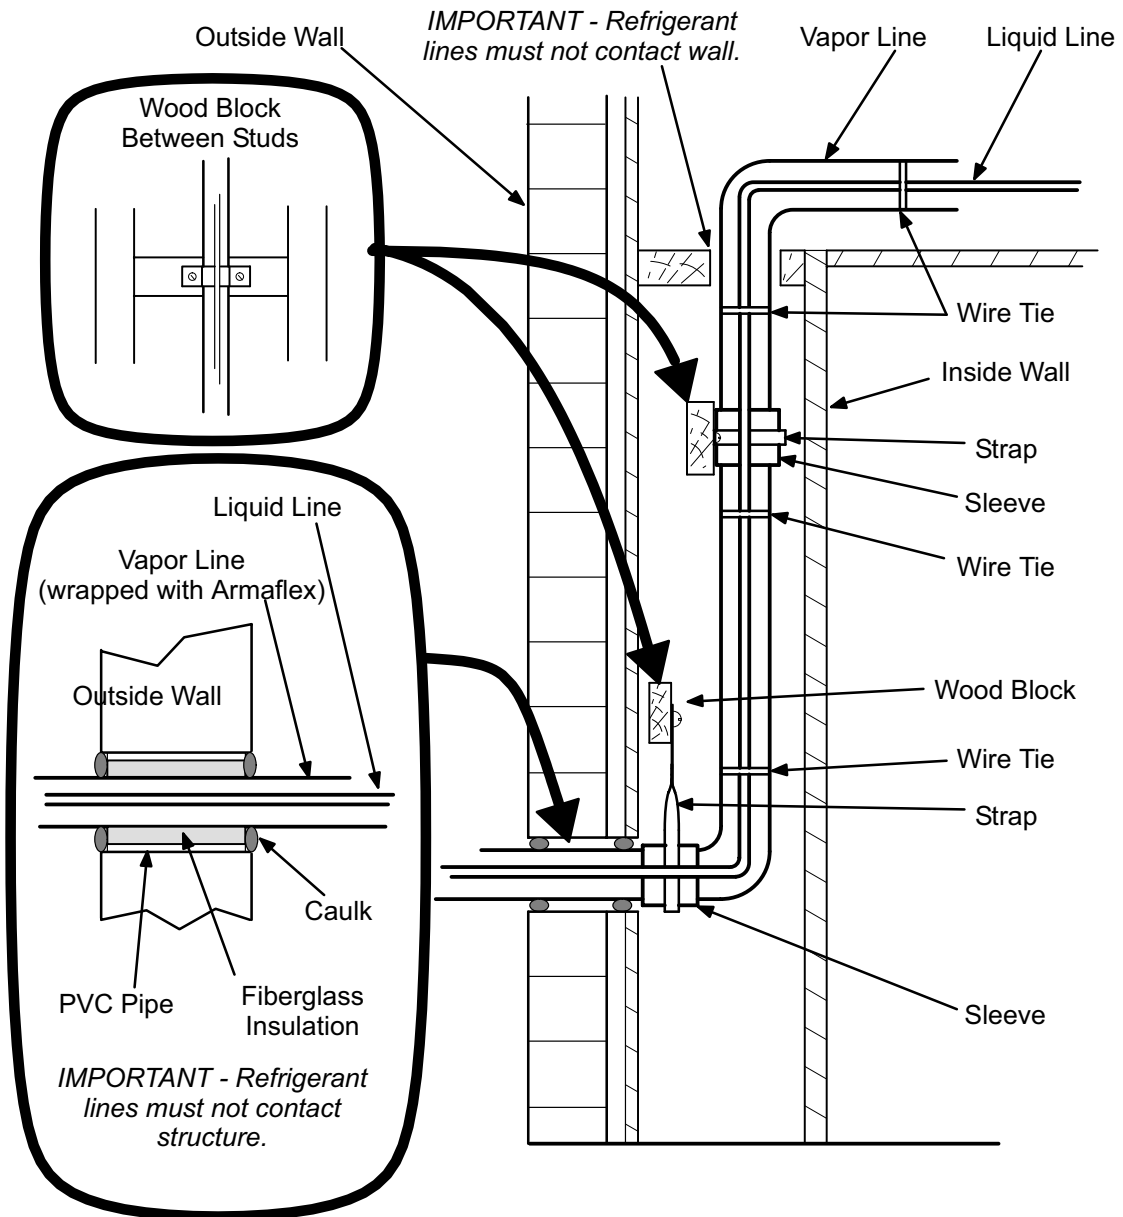
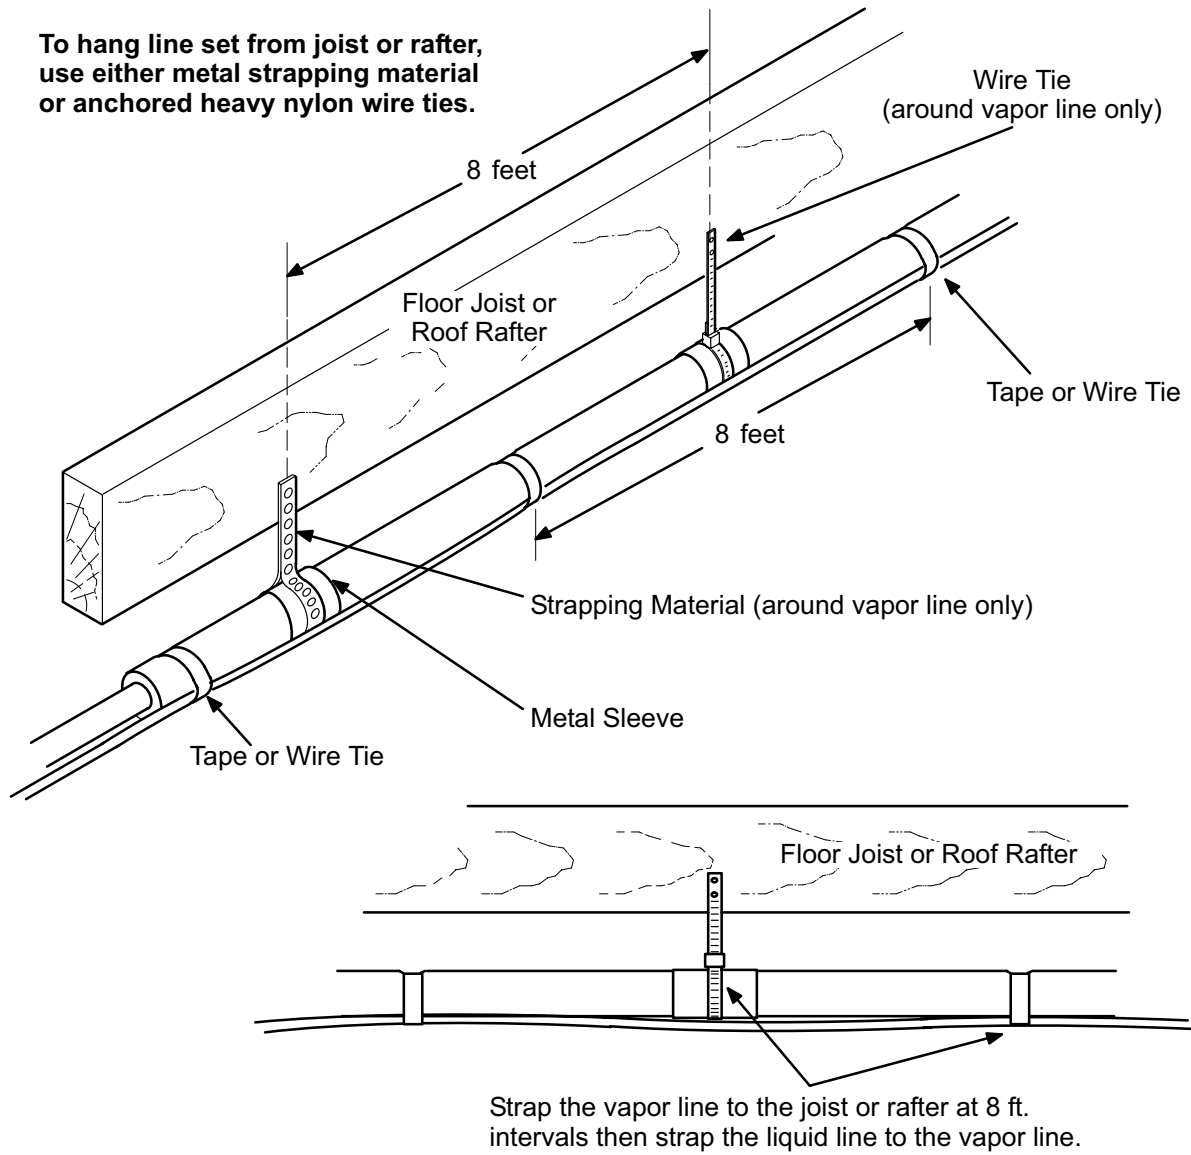
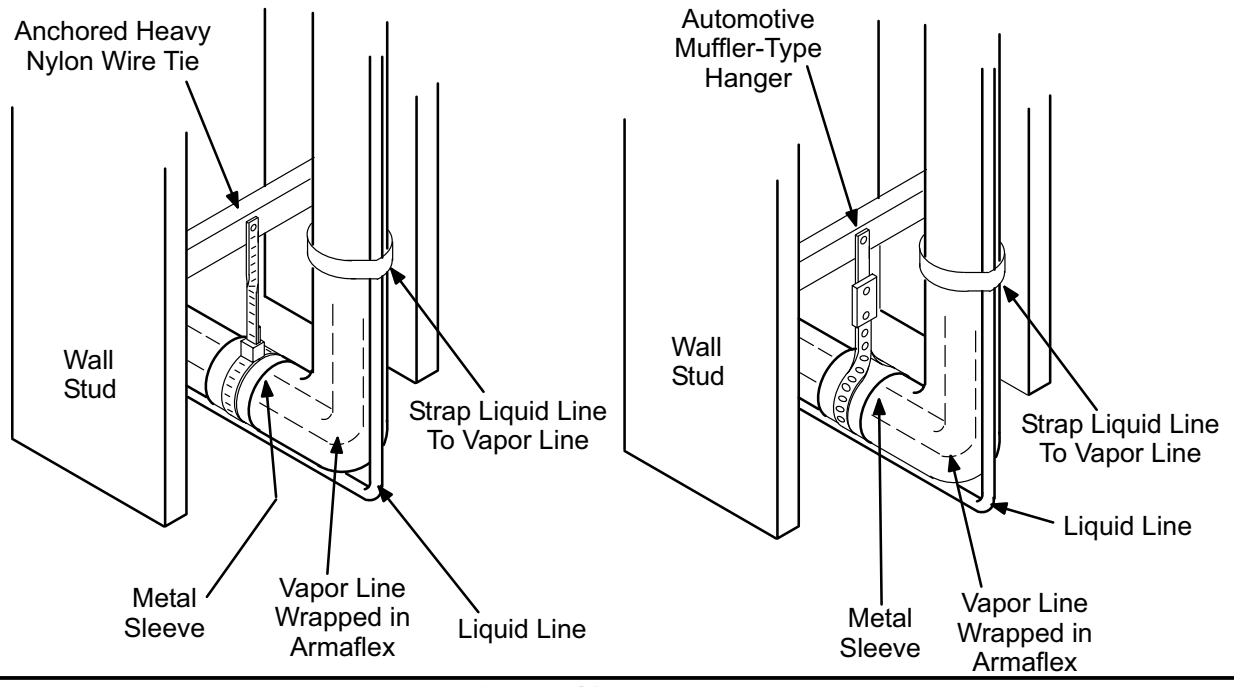
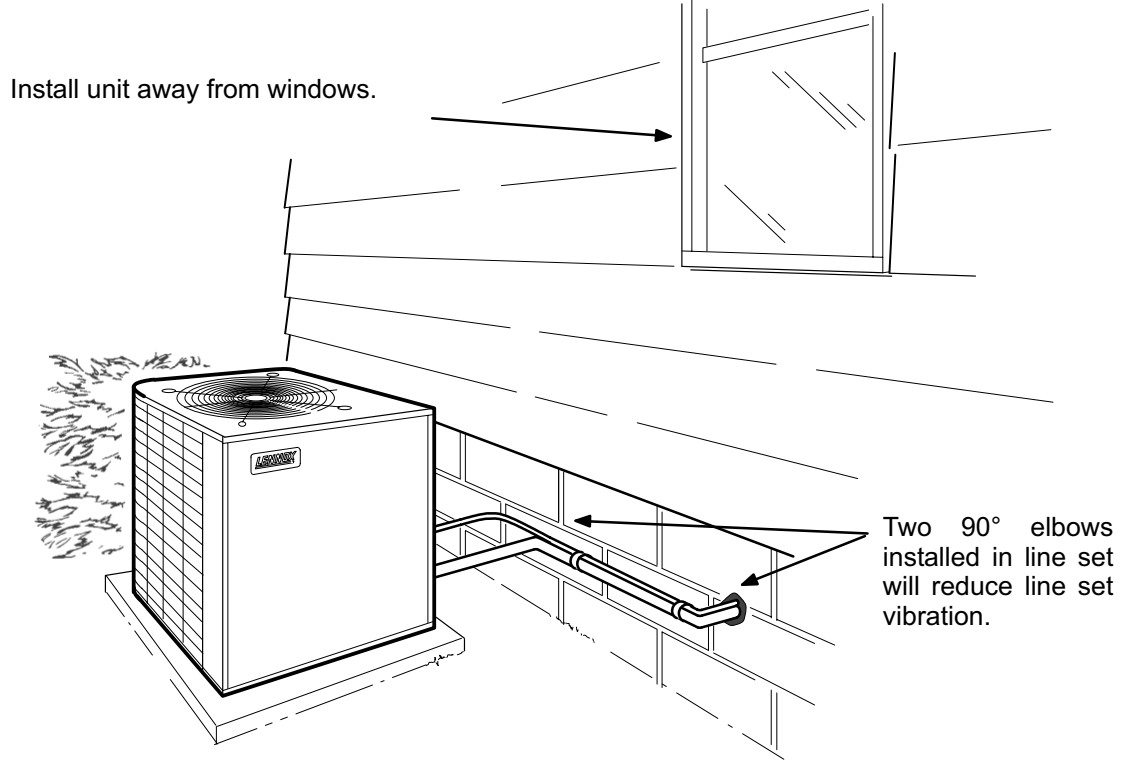

Figure 8
Figure 9
Figure 10
Figure 11
- 2- Line Set Isolation** - The following illustrations demonstrate procedures which ensure proper refrigerant line set isolation. Figure 8 shows how to install line sets on vertical runs. Figure 9 shows how to install line sets on horizontal runs. Figure 10 shows how to make a transition from horizontal to vertical. Finally, figure 11 shows how to place the outdoor unit and line set.